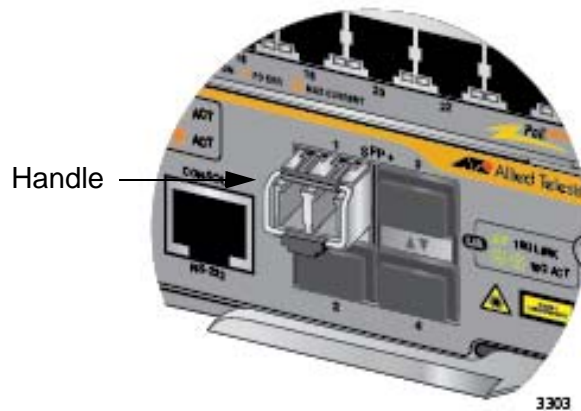

Figure 112. Positioning the Handle on the Transceiver
5. Verify the position of the handle on the transceiver. If the transceiver is in slot 1 or 3, the handle should be in the upright position, as shown in Figure 112. If the transceiver is in slot 2 or 4, the handle should be in the down position.